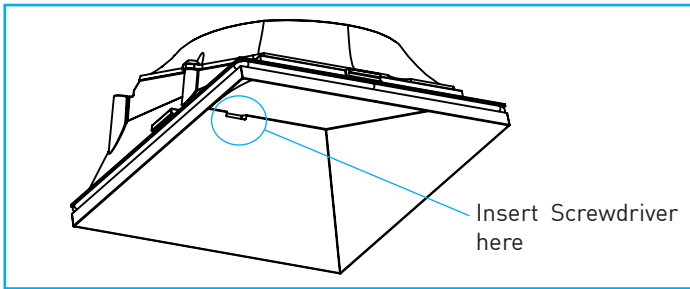

Fig.47
A. Remove baffle. Dry location baffles are removed by lifting lens and pulling down on the top of baffle. Wet location baffles or those with sealed lenses are removed by pulling down on the lens with a suction cup. Wallwash baffles require inserting small flat head screwdriver and carefully prying down as shown in "Fig.47".
- Grasp baffle using soft gloves or with clean soft cloth and remove by pulling down or inserting small flat head screwdriver to wallwash baffles and carefully prying down *"Fig.47"*.